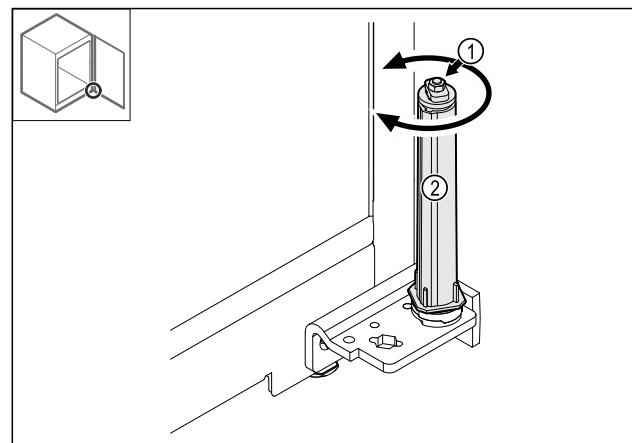

Fig. 37
- ▶ Do not dismantle the screw connection Fig. 37 (1) on the locking system.
- ▶ Turn the locking system Fig. 37 (2) until it clicks.